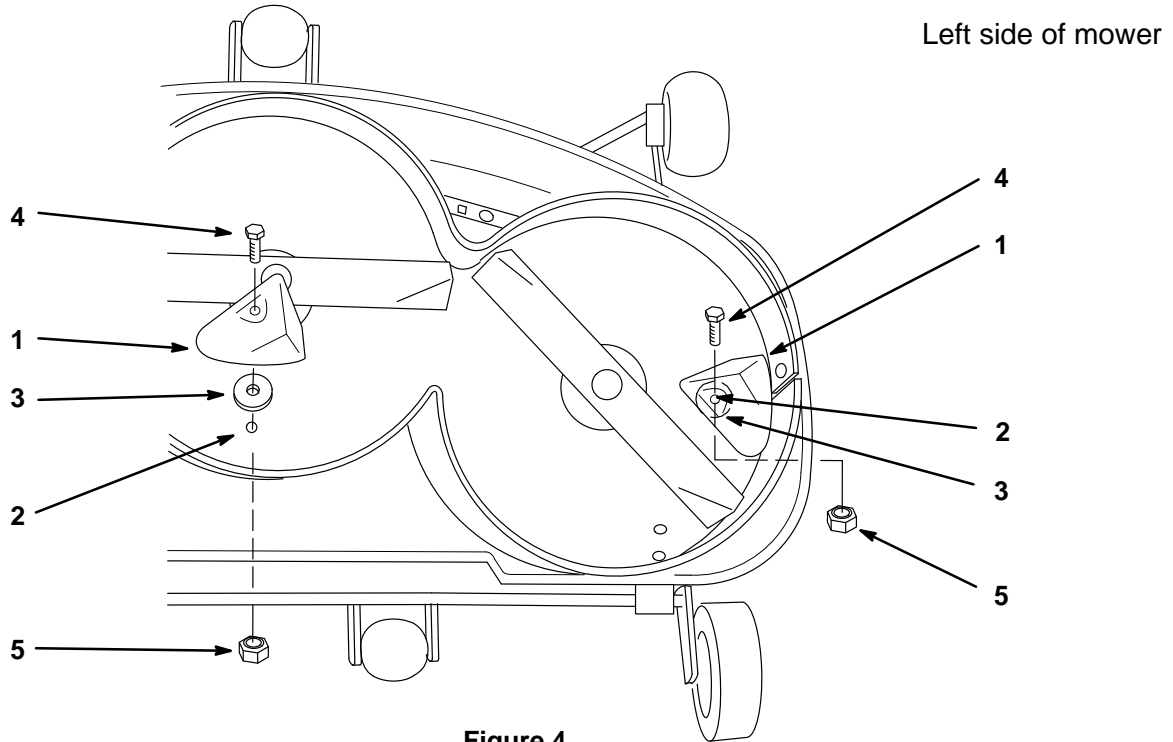

Figure 4
5. Place kickers tight against mower baffle (Fig. 4).
6. Install kickers with 5/16–18 x 1" (26 mm) bolt, with head inside mower and spacer between kicker and mower. Secure with 5/16" lock nut on top of mower (Fig. 4).